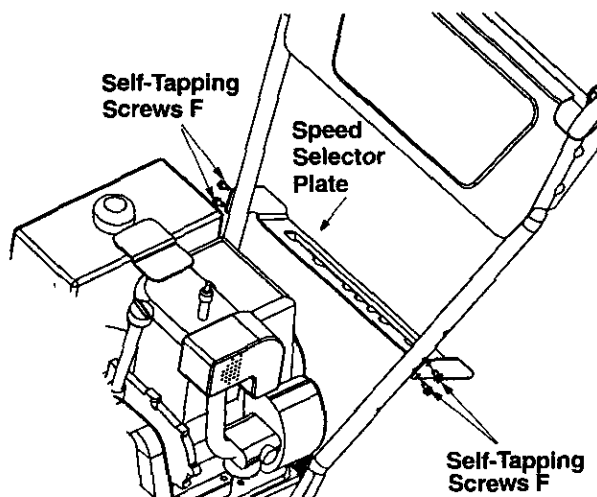

Figure 5
- Assemble the speed selector plate to the **outside** of the handles as shown in Figure 5. Secure using two self-tapping screws (F) from hardware group C. Repeat on the other side.